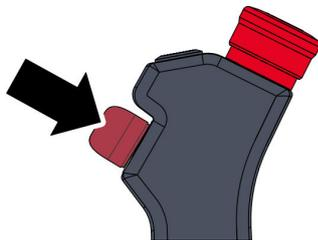

Fig. 85 Pressing the enabling button
- 01. Press the enabling button on the handheld controller in the middle position and move the robot manually for a short distance **Fig. 85**.